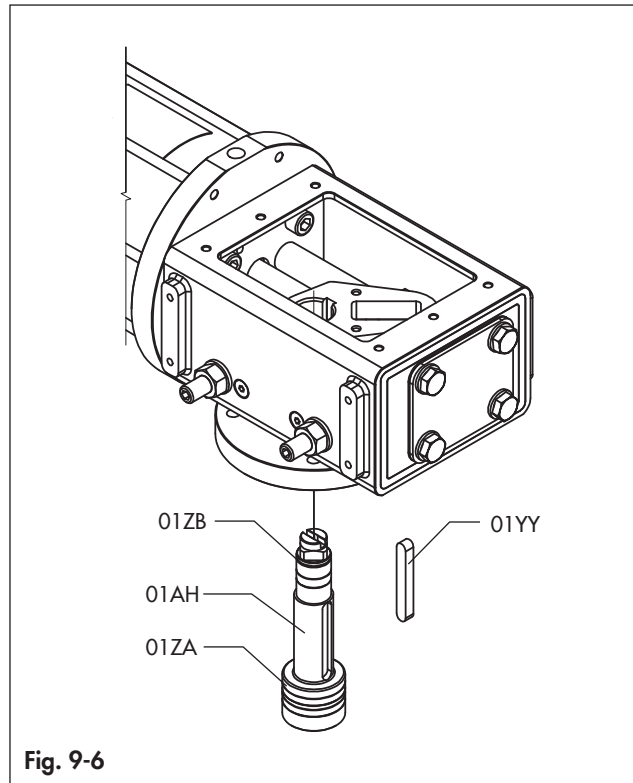

Fig. 9-6
- Remove the drive shaft (01AH), by applying a light force on top of it and the key (01YY) from the bottom (Fig 9-6).